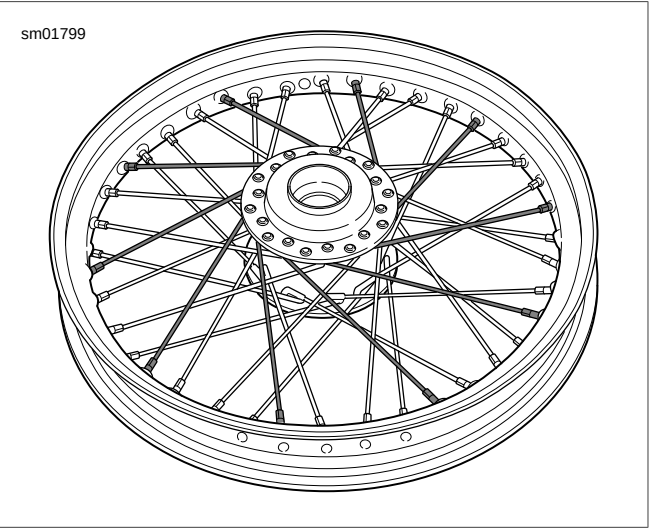

Figure 2-58. Completed Spokes-Top Flange Outer
16. See Figure 2-58. Verify spoke reaches spoke nipple and secure spoke by hand. Follow pattern to complete top flange outer spokes (short-head).